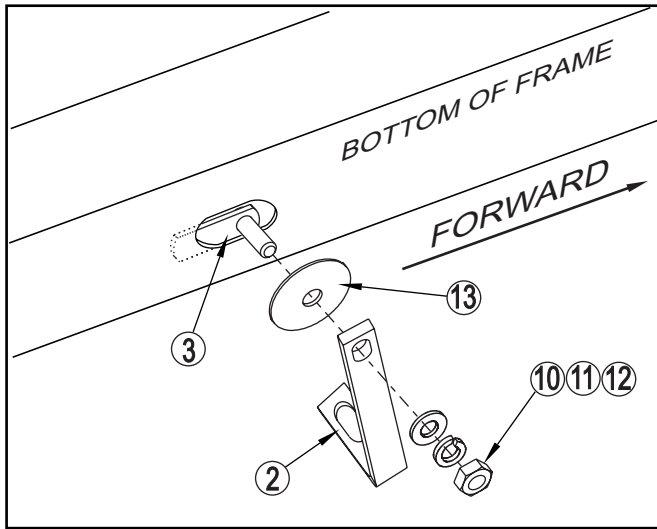
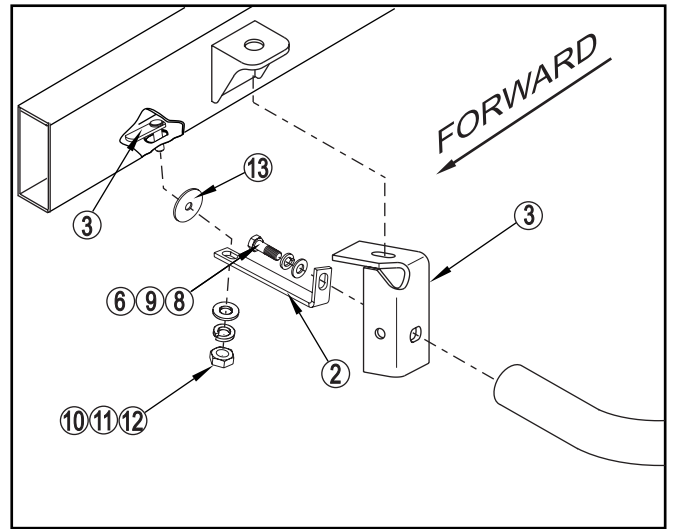

FIGURE 1
FIGURE 2
- STEP 3. Determine passenger and driver support braces. Attach plastic washer to bolt plate. Insert bolt plate into slotted hole on the bottom of frame. Attach support brace to bolt plate using 3/8" fasteners as shown. **SEE FIGURES 1,2, AND 3.** Leave loose. Attach support brace to the back side of the front bracket and to step bar tube using the 1/2-13 x 2.00" bolt, 1/2" lock washer, and 1/2" flat washer as shown. Leave loose. **SEE FIGURES 2 AND 3.**